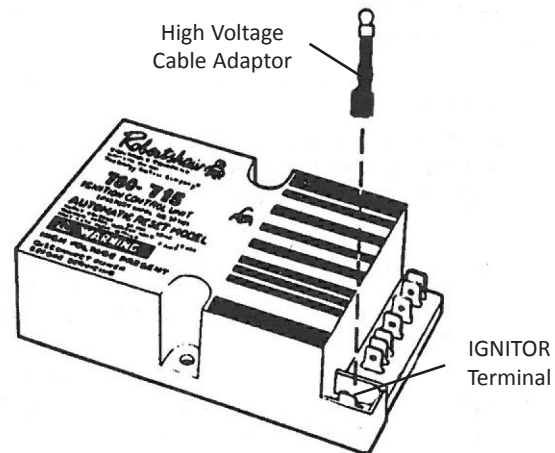

Figure 6
5. Locate the ignitor terminal adaptor included in the kit. Install the adaptor onto IGNITOR terminal on new module, See Figure 6. Connect ignitor lead to the adaptor.